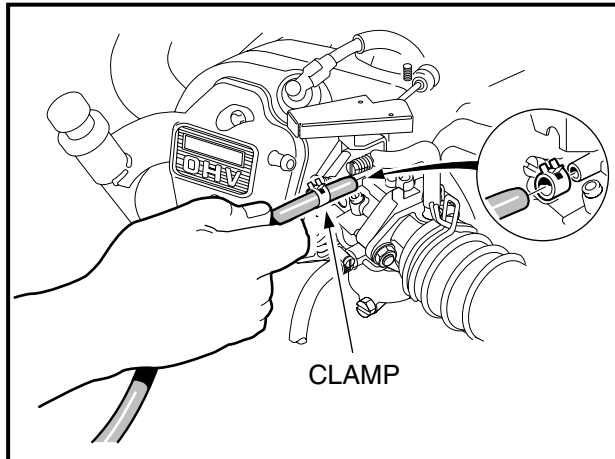

Figure 16-58 Carburetor Vent Tube
33. Connect carburetor vent tube to carburetor and secure with hose clamp (**Figure 16-58, Page 16-23**).